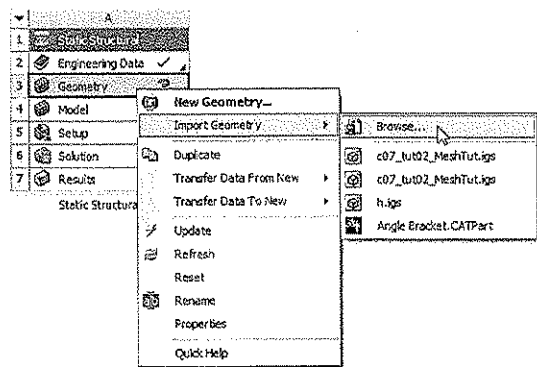

Figure 7-60 Choosing the *Browse* option from the shortcut menu
- 5. Right-click on the **Geometry** cell of the **Static Structural** analysis system and then choose **Import Geometry > Browse** from the shortcut menu displayed, as shown in Figure 7-60; the **Open** dialog box is displayed.